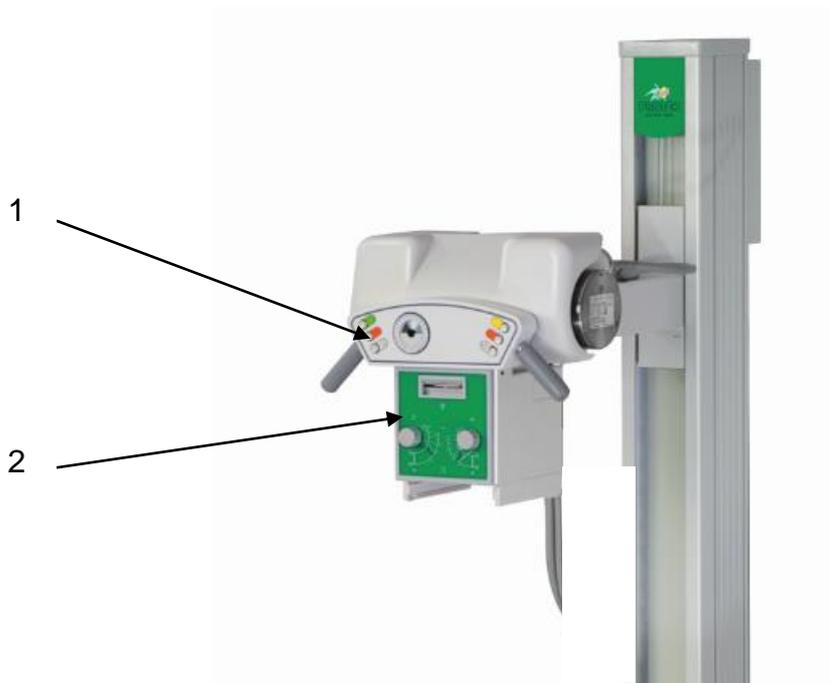

Figure 2-1
1. 1 Control arm (see fig. 2-1/1)
2. 2 Collimator (see fig. 2-1/2)